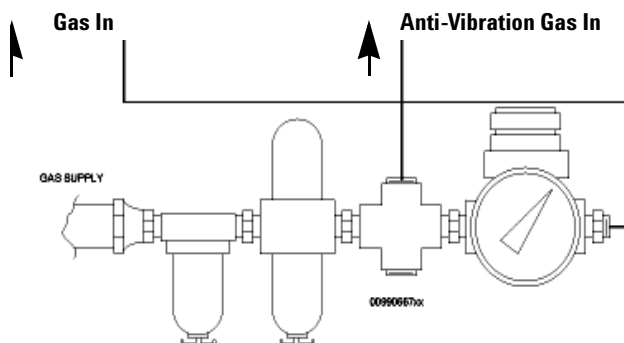

Figure 3 Pneumatics filter and regulators
- 2 Connect the filter and regulator assembly, see Figure 3, to the gas supply.